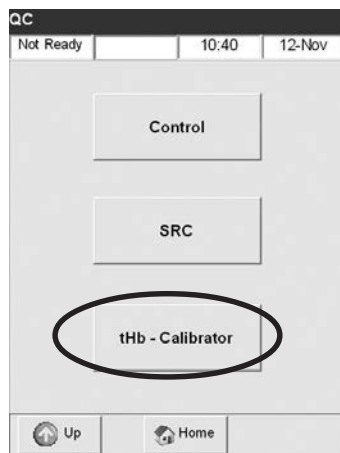

Fig. 6-1 Select tHb-Calibrator
2. In the <QC Manager> menu, select <tHb-Calibrator> (Fig. 6-1).